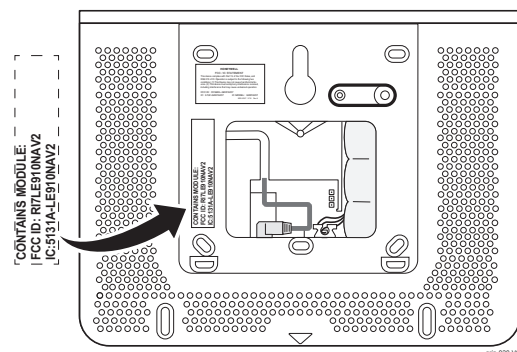

Figure 1. FCC/IC Label Location
1. Affix the provided FCC/IC label (P/N 800-24286 on the Control Panel's case back (refer to Figure 1).